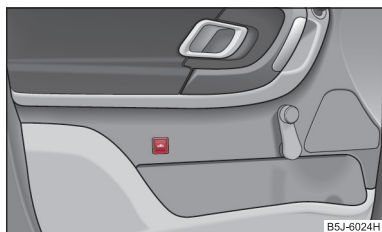

Fig. 32 Interior monitor pushbutton
- Press the button  on the driver door ⇒ fig. 32.